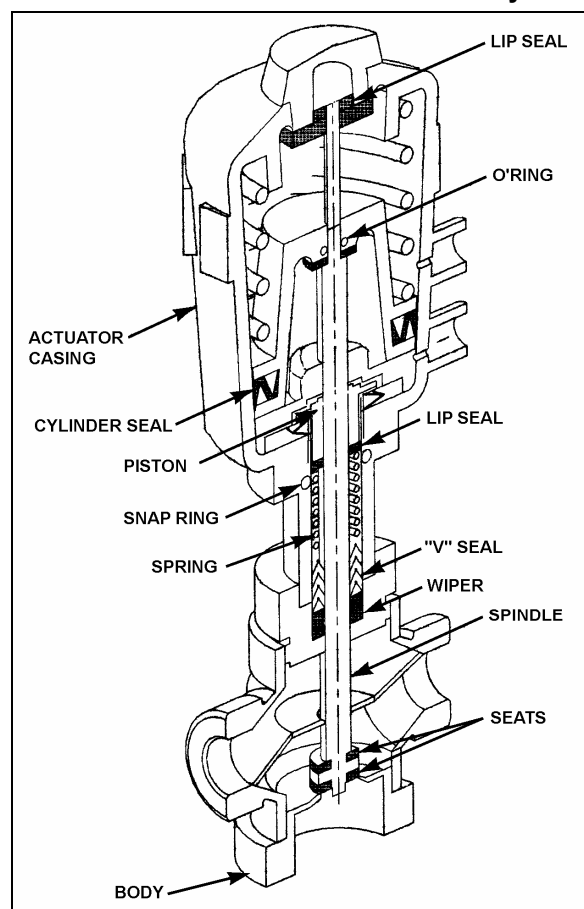

FIGURE 49: PNEUMATIC WATER VALVE
- The water valve need not be removed from the line. Unscrew nipple, the actuator casing, tube, spindle and closure member can be removed (Fig. 49).
- Tighten the nipple in place in the body cavity as per figure 49. Fasten pilot solenoid valve to the pneumatic water valve. Reconnect air supply pressure and electrical current to the pilot solenoid valve.